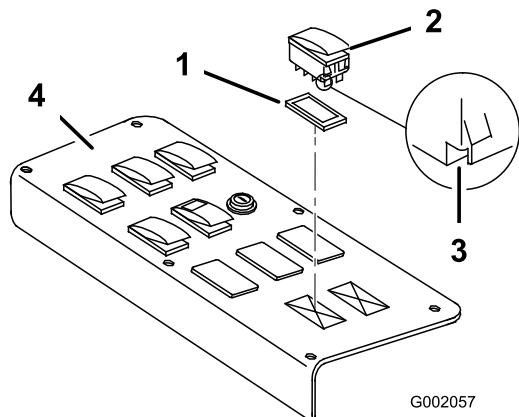
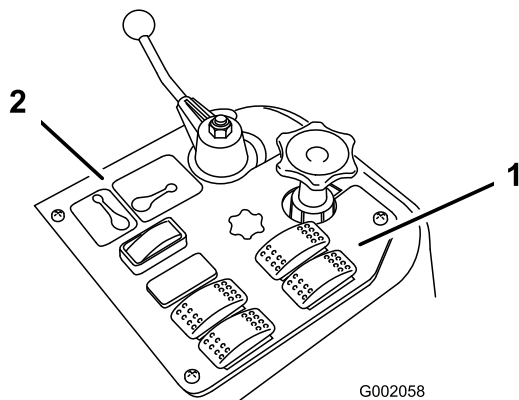

Figure 23
Figure 24
2. Lift and remove the 2 plugs from the spray control panel on the vehicle and install the 2 rocker switches provided in their place (Figure 23 for the 1250 and Figure 24 for the 1200).
Note: Ensure that the orientation of the switches matches what is shown in Figure 23, with the notch pointing toward the rear of the vehicle.